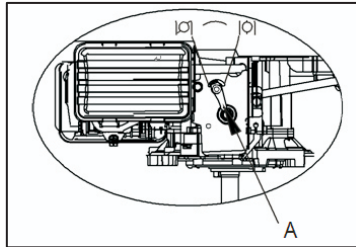

Fig. 2B A. throttle control
b) Move the throttle control to the choke  position. (Fig 2B )